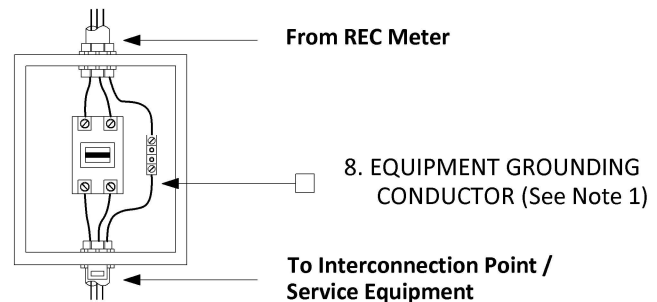

Figure 3. SERVICE EQUIPMENT
- ☐ 6. SERVICE EQUIPMENT (or SERVICE PROTECTIVE DEVICE if service equipment is located more than 15-m conductor length from service point) (See Figure 3)